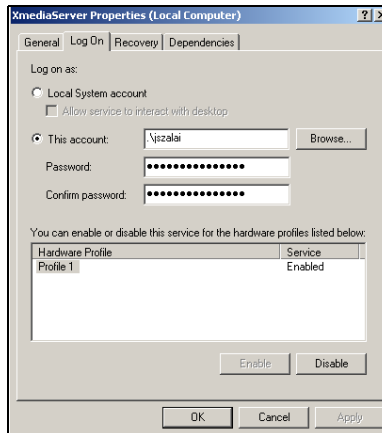

Figure 19-16. The XmediaServer Properties dialog box
4. Navigate down the list of services to the **XMEDIA SERVER** service. Right-click on the Xmedia Server Service and select **PROPERTIES**. The **XMEDIA SERVER PROPERTIES** dialog box appears (figure 19-16).